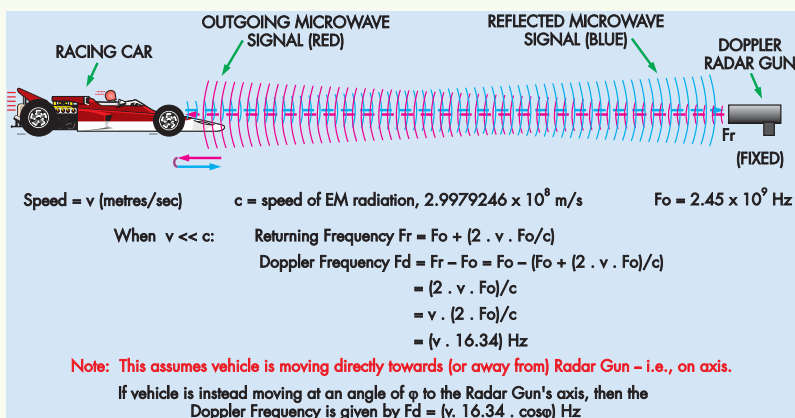

Fig.1: the basic principle behind a Doppler radar speed gun.
The basic idea is shown in the diagram of Fig.1. The radar gun is fixed in position and transmits a narrow beam of microwave radiation (with frequency F_o) towards the moving vehicle. This outgoing radiation propagates towards the vehicle at the normal speed of electromagnetic (EM) radiation in air - at 299,792,458m/s (metres per second); ie, the same as the speed of light (c).